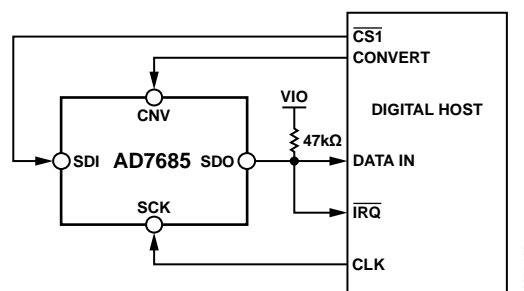
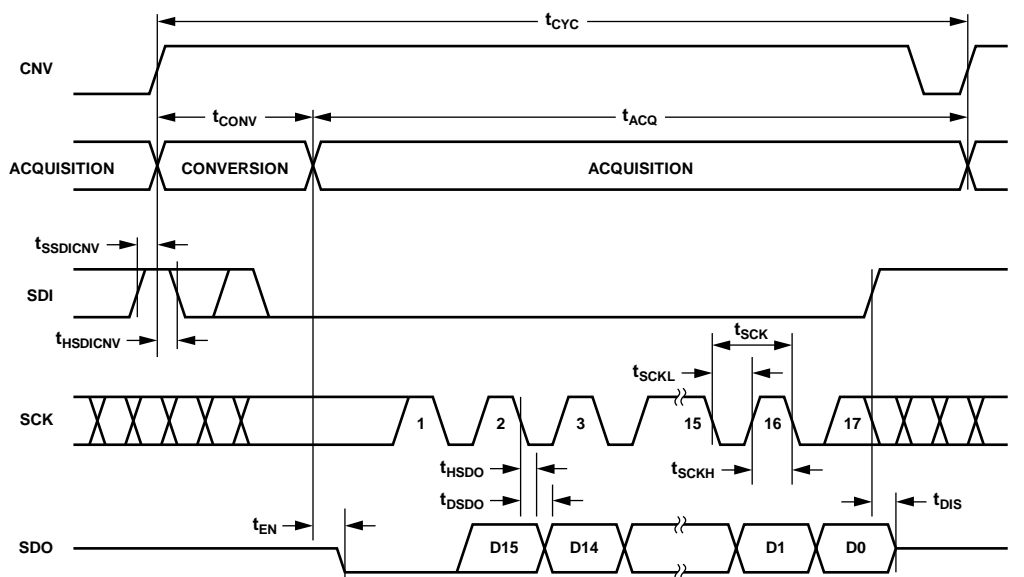

Figure 40. $\overline{\text{CS}}$ Mode 4-Wire with BUSY Indicator Connection Diagram
Figure 41. $\overline{\text{CS}}$ Mode 4-Wire with BUSY Indicator Serial Interface Timing
- In the \overline{CS} mode, if CNV or SDI is low when the ADC conversion ends (see Figure 37 and Figure 41).
The connection diagram is shown in Figure 40, and the corresponding timing is given in Figure 41.